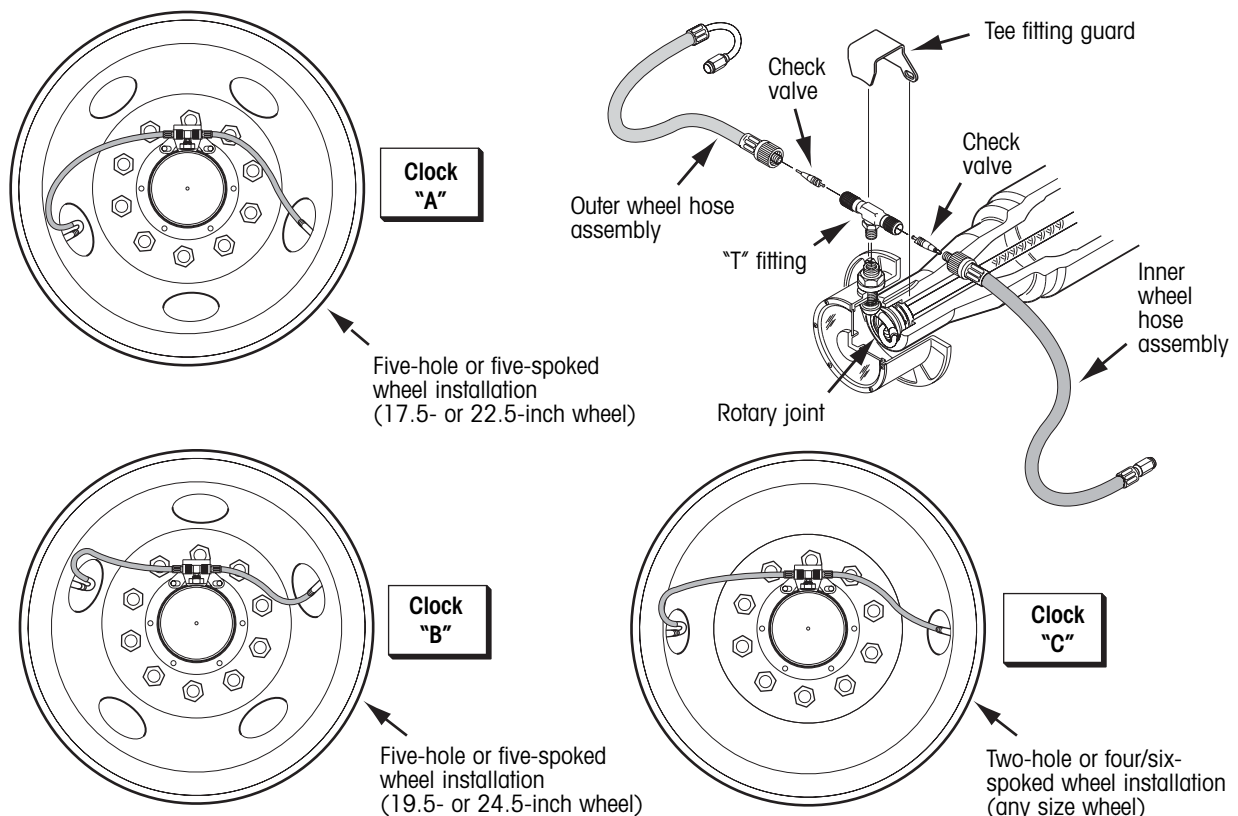

Figure 24. Tee and tire hose installation
1. Position the hubcap and wheel so the hoses will not stretch or rub on the wheel. Refer to figure 24 and the table on this page.
⚠ CAUTION: Wheel must be properly “clocked” to the hubcap to prevent the hoses from rubbing on the wheel (figure 24). Failure to do so may result in hose failure.
2. Apply a small amount of thread sealant to the tee fitting swivel threads and screw the tee fitting onto the rotary joint bulkhead adapter. Tighten finger tight then use a wrench to tighten an additional one-quarter turn (figure 24).
5. Attach the tee fitting guard. Remove the two hub cap bolts closest to the rotary joint bulkhead adapter, place the tee fitting guard over the rotary joint bulkhead adapter as shown in figure 24 and reinstall the hub cap bolts through the holes